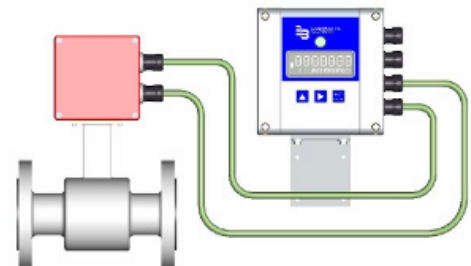

Figure 30: Cables in cable glands
3. The cable entry should be done as shown in Figure 30.